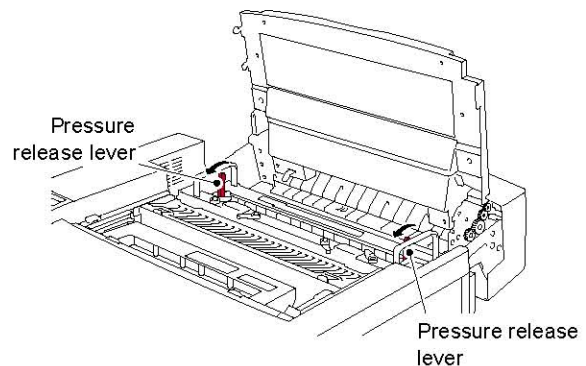

Fig. 6-17
- (1) Install the new fusing unit onto the printer. (Fig. 6-17)